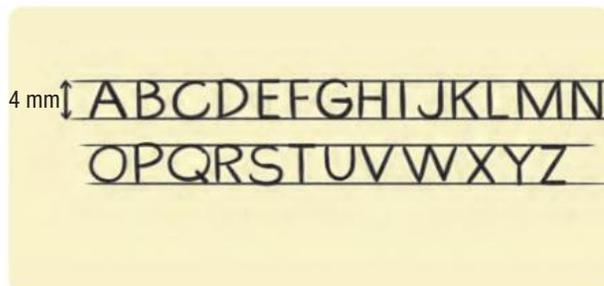

Figure 2.15 Horizontal lines
- 1 Draw two horizontal light parallel lines where you intend to place the **text**. The distance between the parallel lines should be approximately 4 millimetres. Then write the letters as shown in Figure 2.15. Write down each letter at a time.